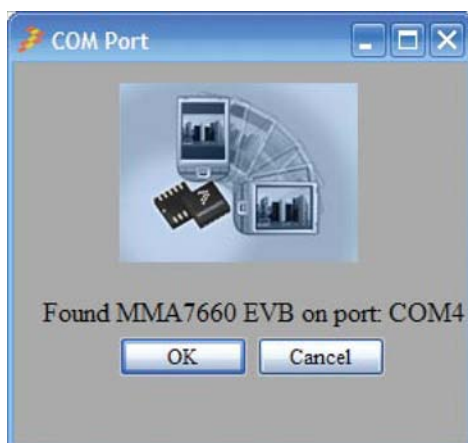

Figure 7. Com Port Selection Screen
2. Select Start > Programs > RD3803MMA7660FC Evaluation Kit or select the icon from the Desktop screen. The COM port selection screen will appear. The application performs an Auto – COM port algorithm which finds the port being used by RD3803MMA7660FC, by handshaking with each available port and selecting the one that answers with the correct handshake command (Figure 7). Select “OK”.